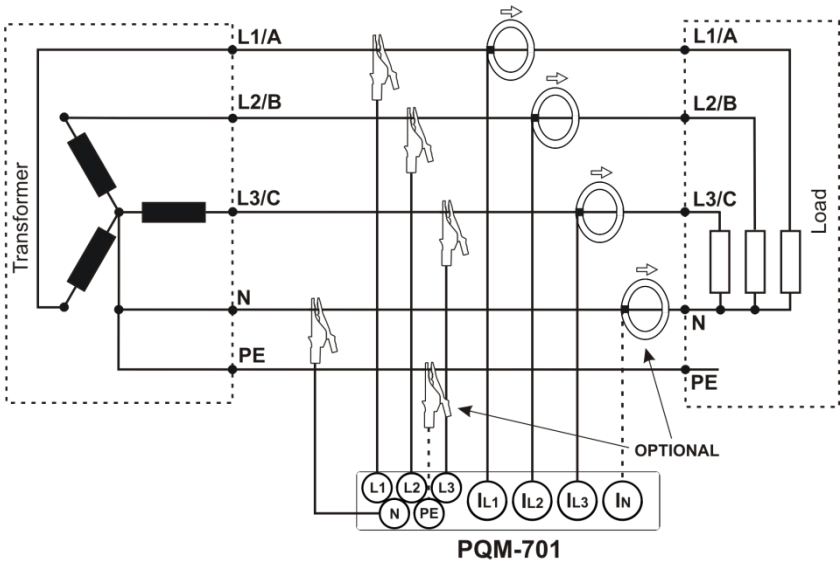

Fig. 6. Connection diagram – three-phase wye system with neutral conductor.
- Three-phase 3-wire wye (Fig. 6),
*For correct calculation of total apparent power  $S_e$  and total power factor PF in a 4-wire, three-phase system, it is necessary to measure the current in the neutral conductor. In such case always activate the **N-conductor current** option and connect 4 clamps as shown in Fig. 6. For more information, refer to section 10.7.5.*